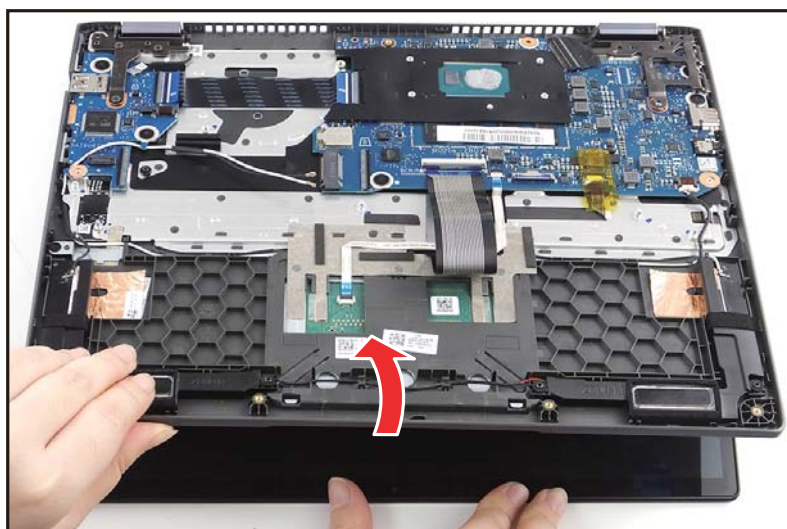

Figure 1-29. Mainboard Removal
2. Lift the top assembly until it is fully open (Figure 1-29).